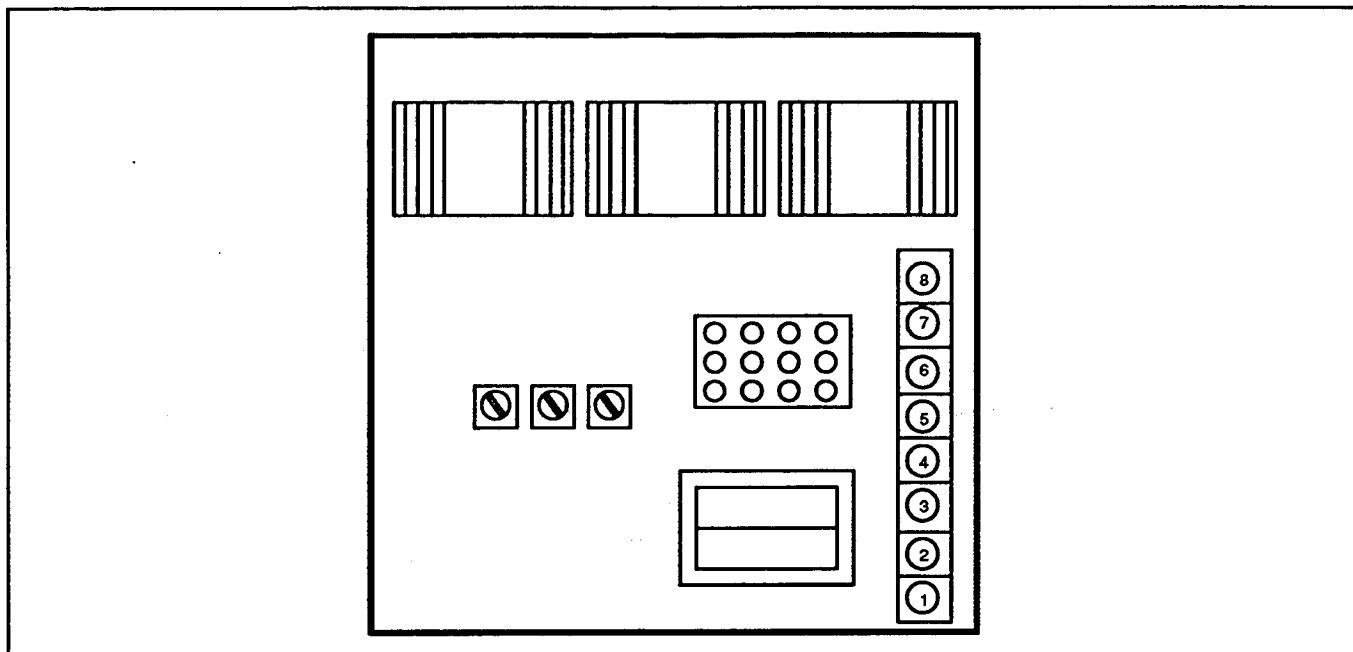

Figure 7-3. PowerBoost V Voltage Regulator
1. Disconnect all leads from voltage regulator. See Figure 7-3.